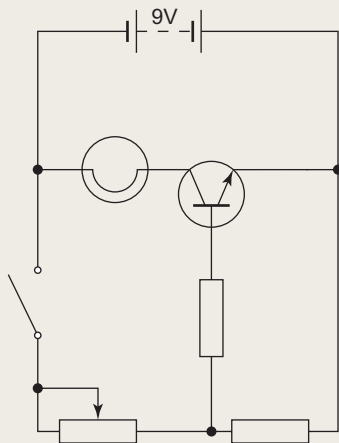

Fig. 9.22 Exercise 3
3. Construct the electronics circuit given in Fig. 9.22 from the file **electronics.dwg** using the **DesignCenter**.